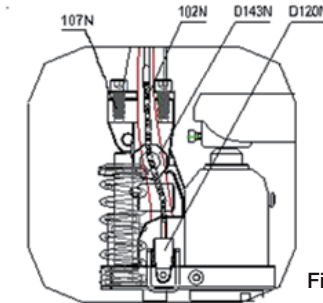

Fig. 1
2. Set the handle (110N) on the bracket (D138N). Make sure the chain (102N) and the bolt (103N) go through both the holes in the center of the bracket (D138N) and the shaft (D143N). See Fig. 1.